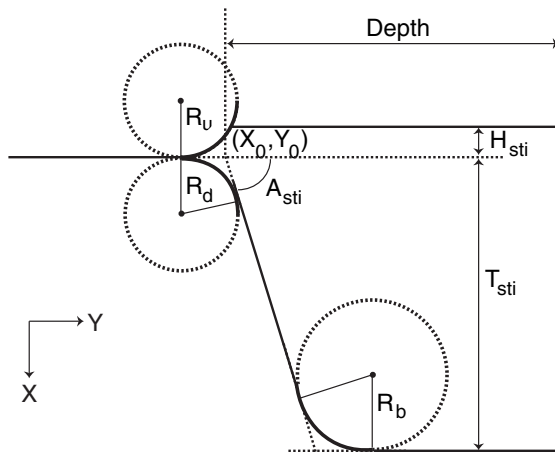

Figure 64 Parameters for generating STI-shaped polyhedron
- Figure 64 describes the other parameters.
- Figure 64 on page 239 describes the other parameters.